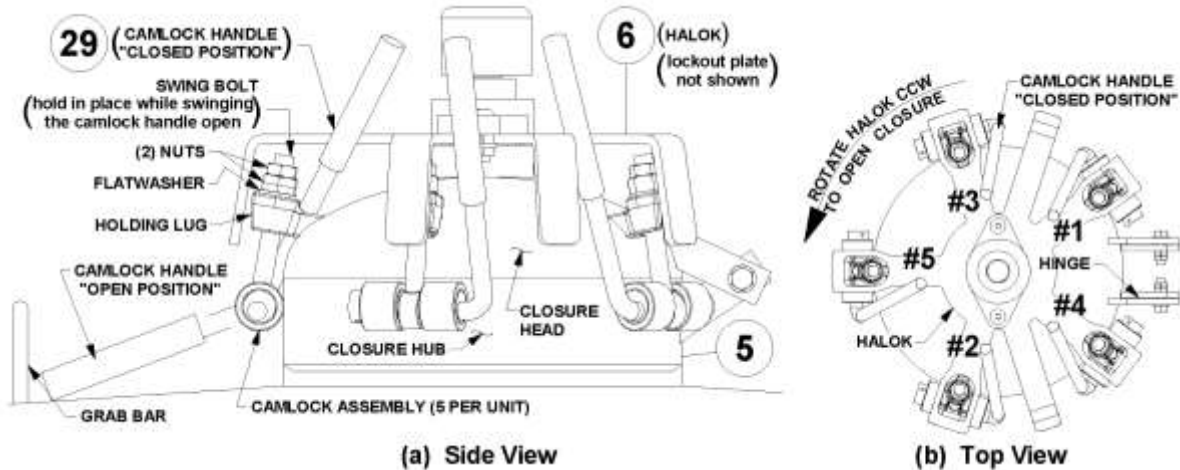

Figure 8.1 – Closure Assembly
Clean debris off all components. Replace all missing and defective components. Any camlock, swing bolt, nut, or hinge that show signs of damage, corrosion, wear, or does not swing freely must be repaired or replaced prior to re-pressurizing the blast vessel. The camlock handles must be installed into the cam lugs as shown in Figure 8.1(b) so there is no interference with closure head handle or hinges, and to insure proper operation of the closure Halok (#6). The torque on the camlock assembly nuts must be properly adjusted. See Section 8.5 for camlock adjustment.
- d) Following the numbered sequence shown in Figure 8.1 tighten each bolt in three steps.